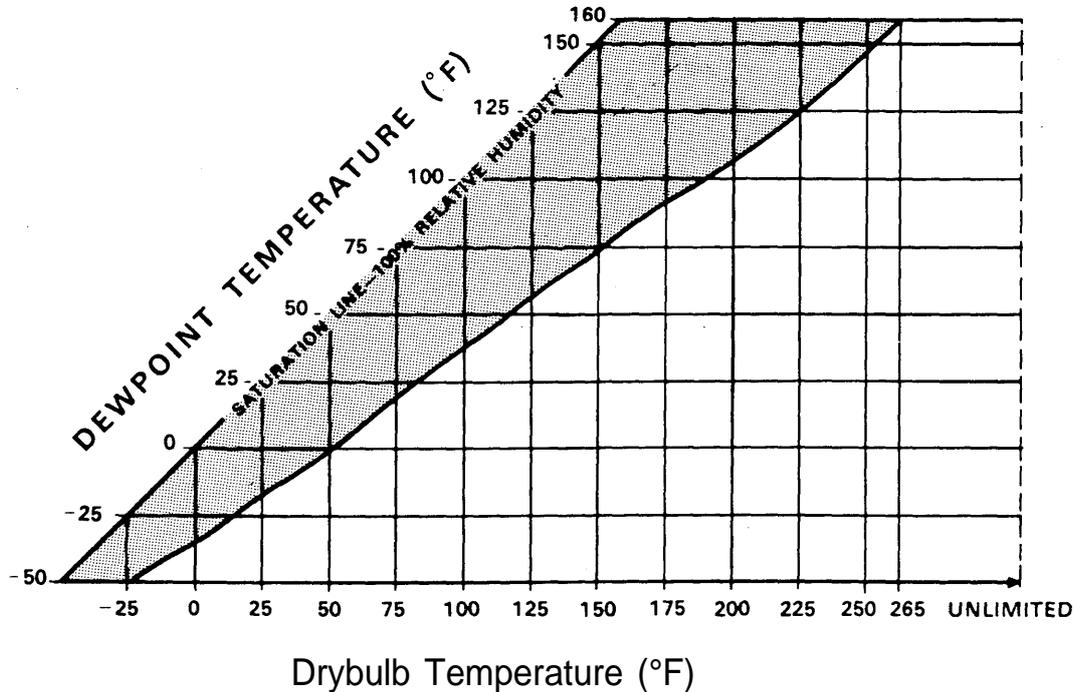

Figure 2—Dewpoint Temperature Selection Chart
**How to Read the Chart (Figure 2)**